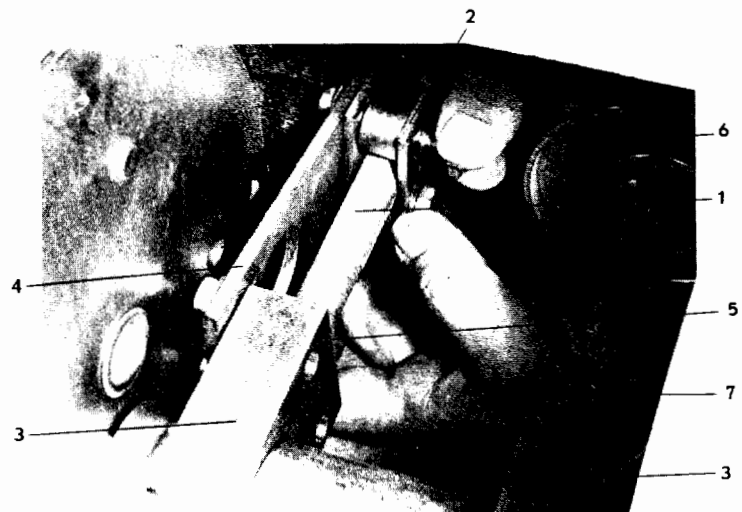
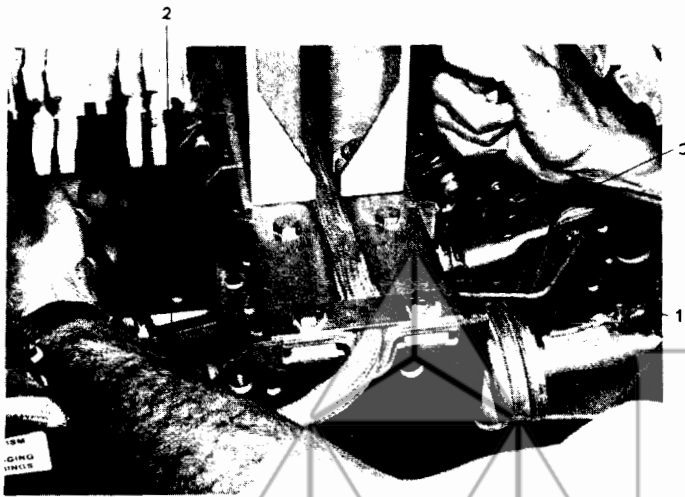

Fig. A10a Flywheel Brake
Fig. A10b Pull Rod
To remove the brake, remove the clamp, (2) Fig. A10a, that holds the brake assembly to the pullrod and then remove the two bolts that mount the brake to the flywheel block. Reinstall the new brake in the reverse order.
Charge and gag the closing spring and press the manual close push button. Remove the flywheel brake assembly (Reference paragraph A.5.20). The pull rod is a turn buckle arrangement with right hand threads on one end and left hand on the other. Loosen the jam nuts, (5) Fig. A10a and (3) Fig. A10b, on each end of the pull rod and remove the pull rod by unscrewing it. Remove the jam nuts and install them on the new pull rod. Install the new pull rod and screw both ends in simultaneously. Set the length of the pull rod initially to approximately 13 3/4 inch between the flywheel block, (3) Fig. A10a, and the coupling, (1) Fig. A10b, attached to the adjustable throw transfer crank. Adjust the pull rod length as described in paragraph 5.3.
To remove the closing spring charge and gag it and push the manual close push button. Push the manual trip push button to assure that the breaker is open. Disconnect the closing spring assembly, (6) Fig. A10a, by driving the roll pin out that connects the closing spring assembly to the flywheel block. The closing spring can then be removed through the bottom of the breaker.